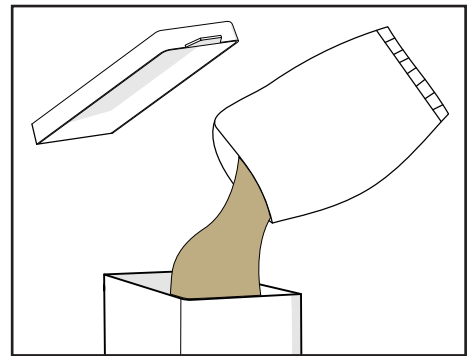

Figure 10.
5. Fill the canisters to **maximum three quarters** of the capacity (see Figure 10).